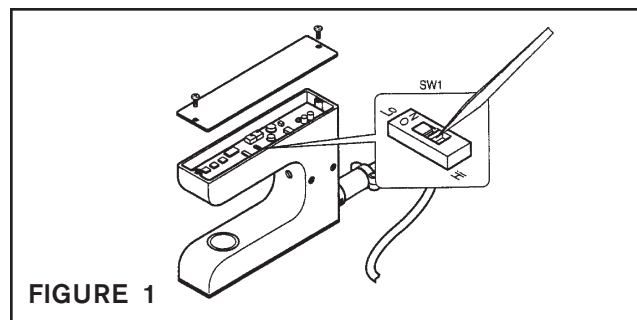

FIGURE 1
1. Remove the selector switch cover to access the Hi/Lo switch. (See Figure 1)